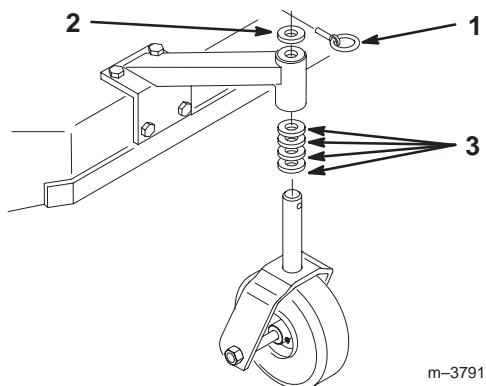

Figure 25
1. Using the height-of-cut chart, adjust the caster spacers to match with the axle hole selected (Fig. 25).
2. Remove clevis pin, slide caster from support and change spacers (Fig. 25).
3. Install caster in support and insert clevis pin (Fig. 25).